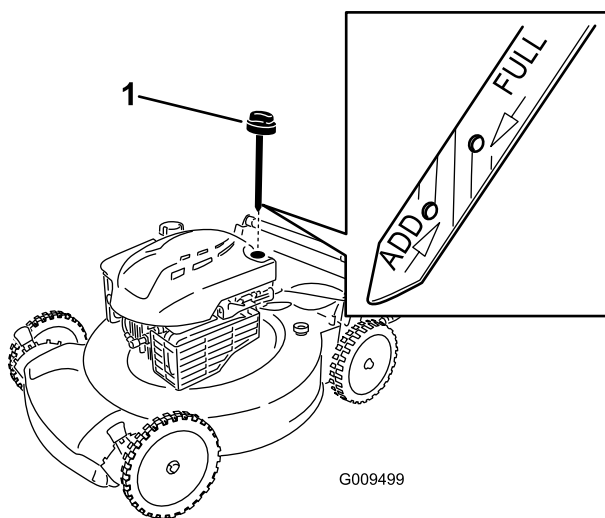

Figure 5
1. Remove the dipstick (Figure 5).
2. **Slowly** pour oil into the oil fill tube until the oil level reaches the **Full** line on the dipstick (Figure 5). Wait 3 minutes after adding oil to check the oil level with the dipstick. **Do not overfill.** (Max. fill: 20 oz. (0.59 l), type: SAE 30 detergent oil with an API service classification of SF, SG, SH, SJ, SL, or higher.)